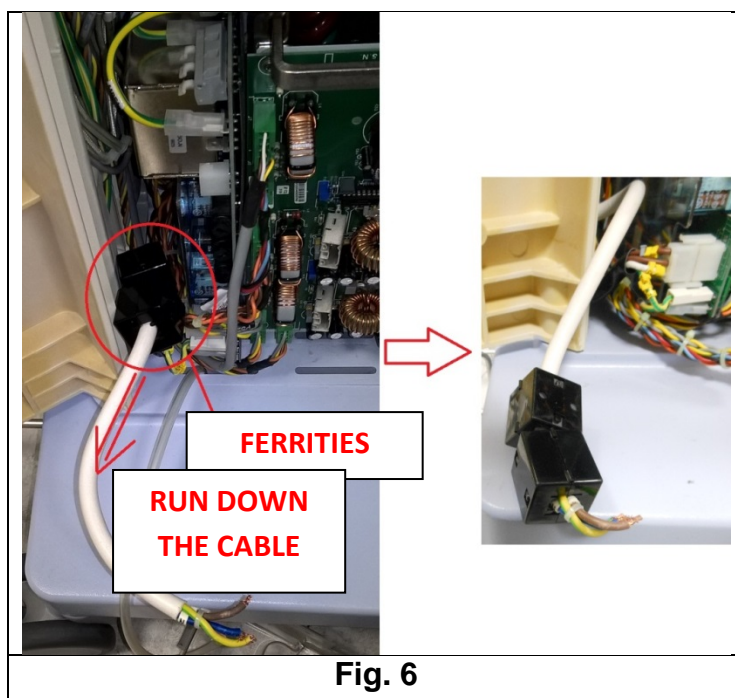

Fig. 6
7. If your Formula machine has black ferrites, slide the black ferrites on the power supply cable down the power supply cable (toward the PSU attachment wires). Place the power supply cable with attached ferrites out of the machine and to the side so it does not interfere with the removal of the PSU (**Fig. 6**).